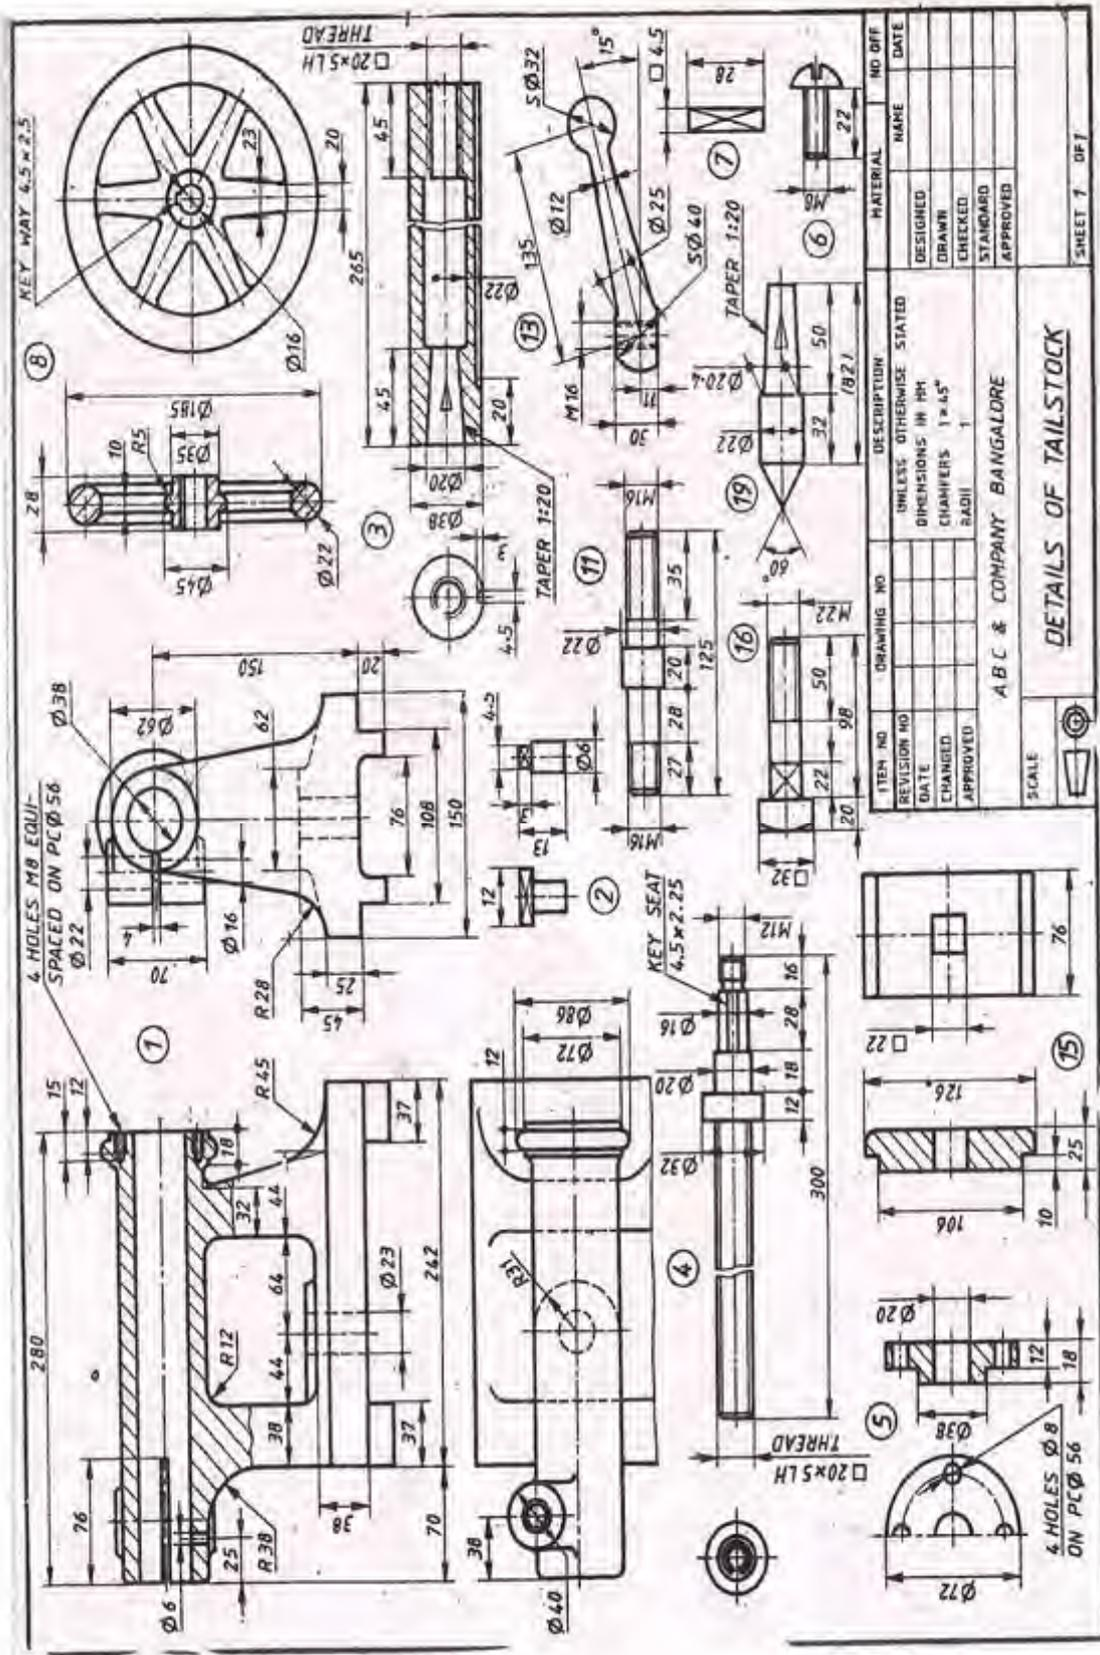

Fig.1 Tail stock
12. a) The details of Tail stock are shown in Fig.1 assemble all the parts correctly and draw the front view in section of the assembled tailstock to 1: 1 scale.